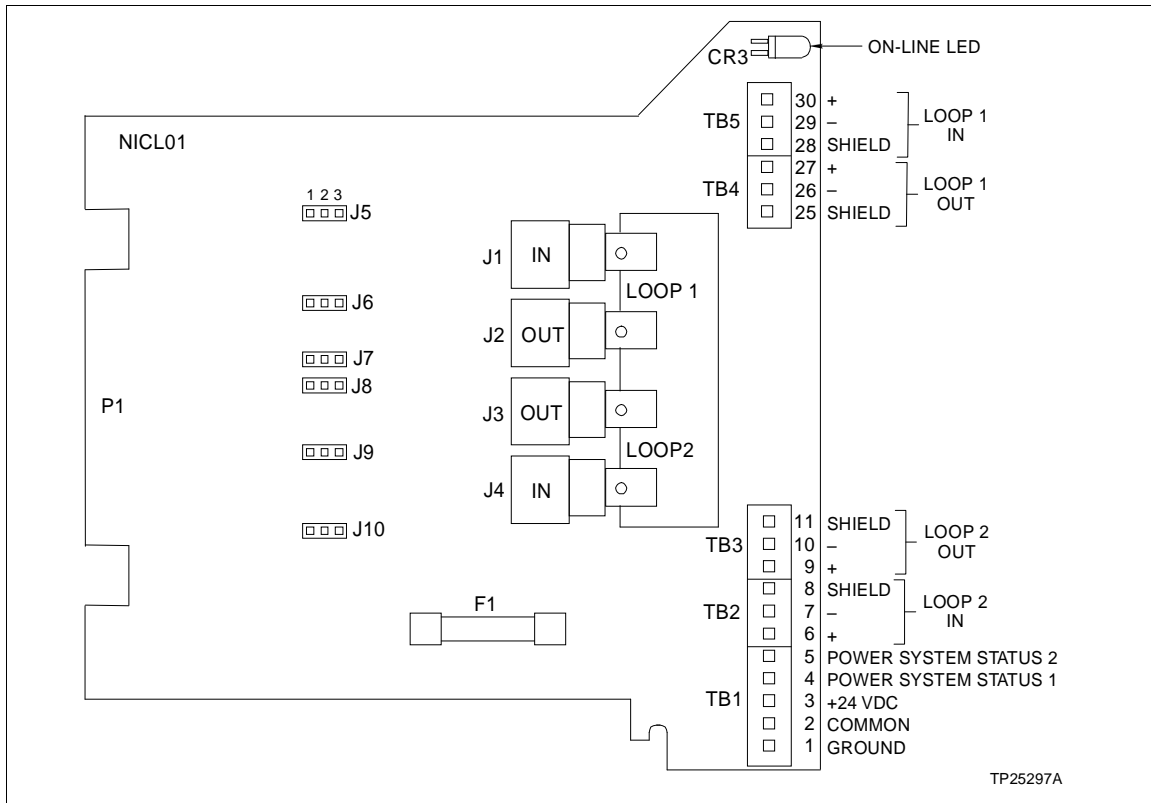

Figure 2-1. NICL01 Connector Assignments and Jumper Locations, Revision D Boards
Before you mount the ICL in the termination mounting unit, check the fuse and jumpers. Jumper settings configure the termination module to match the impedance of the communication cable. These jumpers must be properly installed for the system to operate. Figure 2-1 shows the location of the fuse holder, jumpers, and connectors.
Bailey ships a 1.0 amp/250 volt fuse (Bailey P/N 194776A11001) with each ICL. Verify that the fuse is installed in the fuse holder marked F1. Figure 2-1 shows the location of the fuse holder on the ICL circuit board.
1. If using coaxial cable, connect the cable to the termination module at the appropriate (loop 1 or 2) BNC connector. The BNC connector assignments are marked on the circuit board and are shown in Figure 2-1.
2. If using twinaxial cable, connect the cable to the termination module at the terminal blocks, TB2 and TB3 or TB4 and TB5. The terminal assignments appear on the circuit board silkscreen and are shown in Figure 2-1.
There is one terminal block (TB1) that connects to +24 VDC, system common and ground. Figure 2-1 shows their location on the ICL circuit board. To connect power to the termination module in a system using modular power supplies: